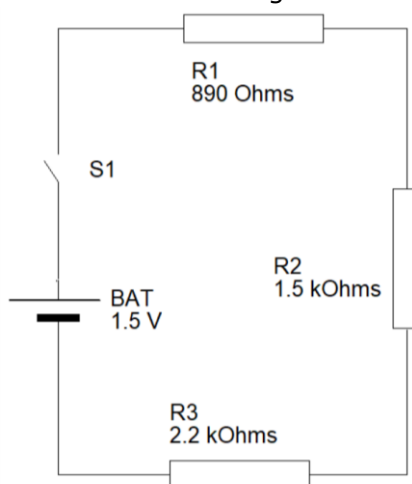

Figure 2: Circuit 1
a. Find the total resistance of the circuit shown in Figure 2. Show all your working.